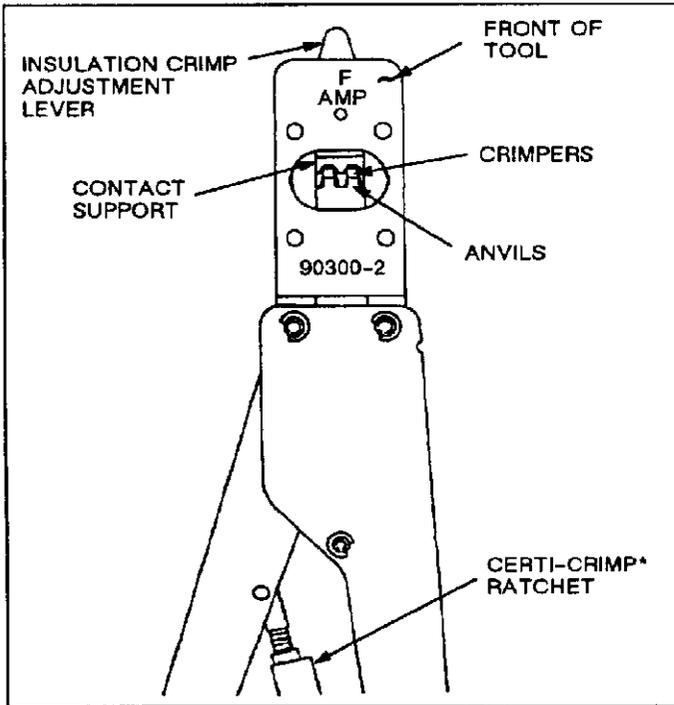

Fig. I-1
I-1. INTRODUCTION (Figures I-1 and I-2)
AMP Hand Crimping Tool 90300-2 (Figure I-1) is designed for crimping AMP Universal MATE-N-LOK* and Universal MATE-N-LOK II loose-piece (LP) pin and socket contacts listed in Figure I-2. Read these instructions thoroughly before starting.
I-2. DESCRIPTION (Figures I-1 and I-3)